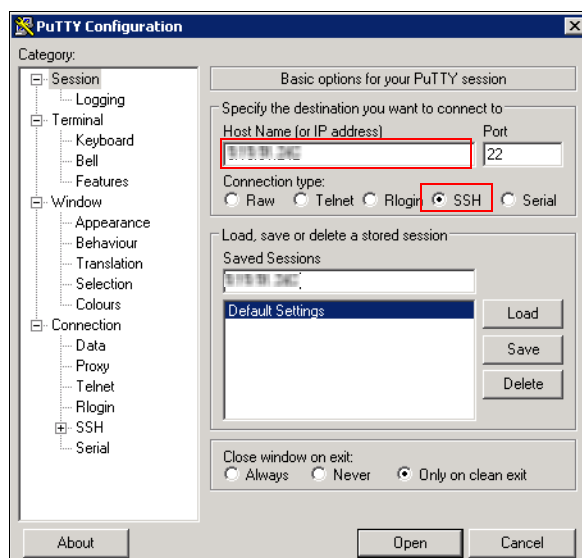

Figure 6-115 Configuring PuTTY (step 1 of 3)
1. Enter the IP address or name of the FlashSystem 900. The name can be used if the name resolution, Domain Name System (DNS), is configured. Ensure that **SSH** is selected and that port 22 is used for the connection, as shown in Figure 6-115.